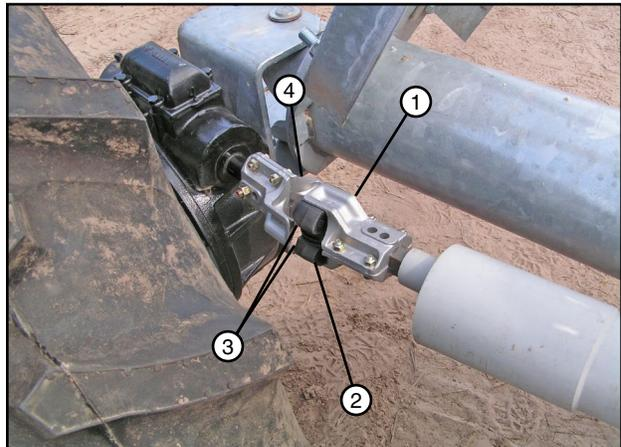

Figure 38-2 1. Drive Shaft U-Joint Half
6. As the tire is turned to the operating position, align the drive shaft u-joint half and flex joint chamfered corners with the wheel gearbox u-joint half. See figure 38-2.
Continue pushing the tire toward the operating position with enough force to push the gearbox u-joint half over the flex joint. See figure 38-2.